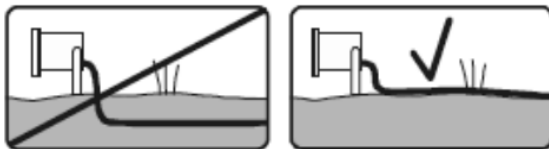

Fig. 2
- The pre-installed cable supplied is for above ground use only. Cables that are to be routed within walls or below ground must be protected by means of suitable conduit or trunking (see Fig. 2)